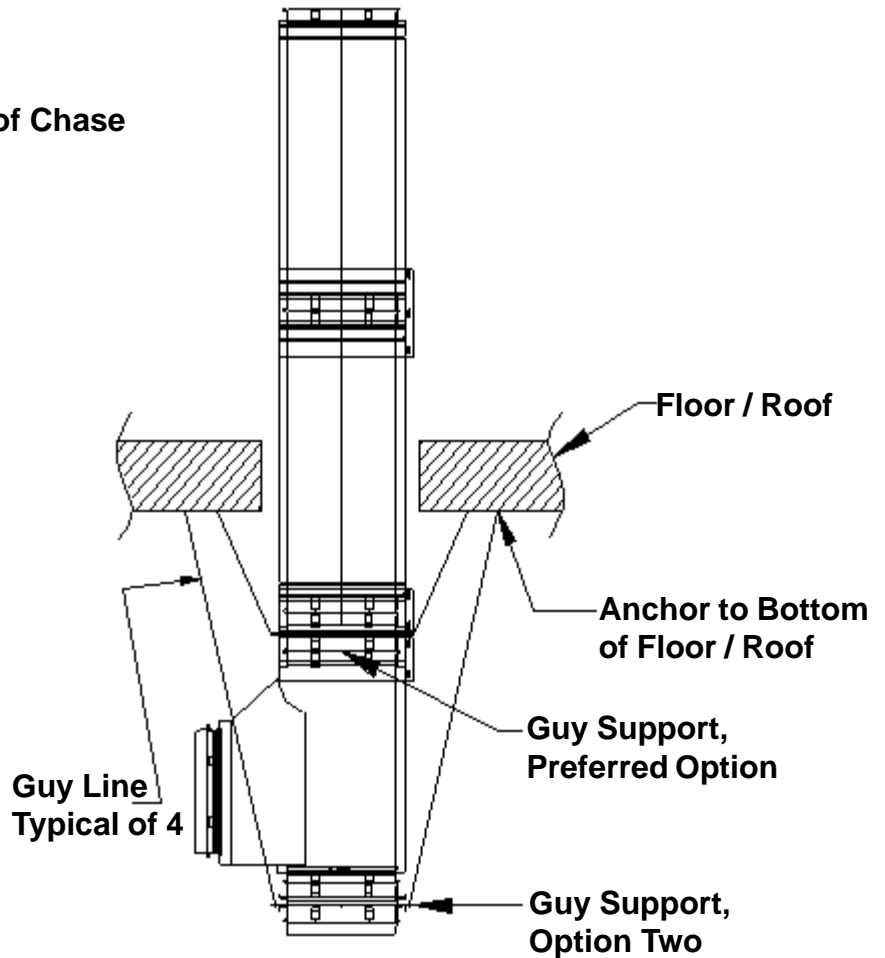

Figure 5
4. Insert the male end of the first piece of Saf-T Vent CI Plus into the female end of the boiler adapter, lining up the joint tabs, *figure 5*. Install the joint strap over the tabs of both parts, hand tighten the strap with a 7/16" hollow nut driver. **CAUTION:** overtightening will distort the joint. Re-tighten the boiler clamp around flue collar. If possible, reach into the vent and apply RTV sealant to all inside seams of the boiler adapter and the first joint. Smooth the sealant with a moistened finger or flat tool, *figure 5*.
APPLICATION 2. Support Below a Floor or Roof (Figure 5).